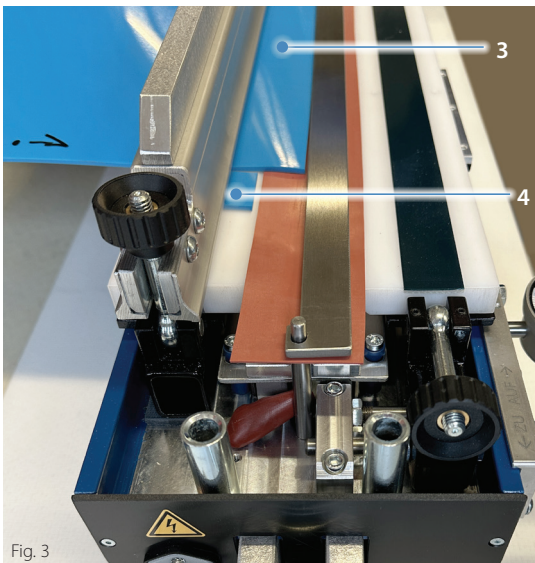

Fig. 3
- Clean the first end of the belt (3) and center it over the width of the press. Affix it with the belt holder.
Caution: Shim the belt holder up to the edge of the press with belt material (4) if the belt is much narrower than the nominal width of the press. (Fig. 3)